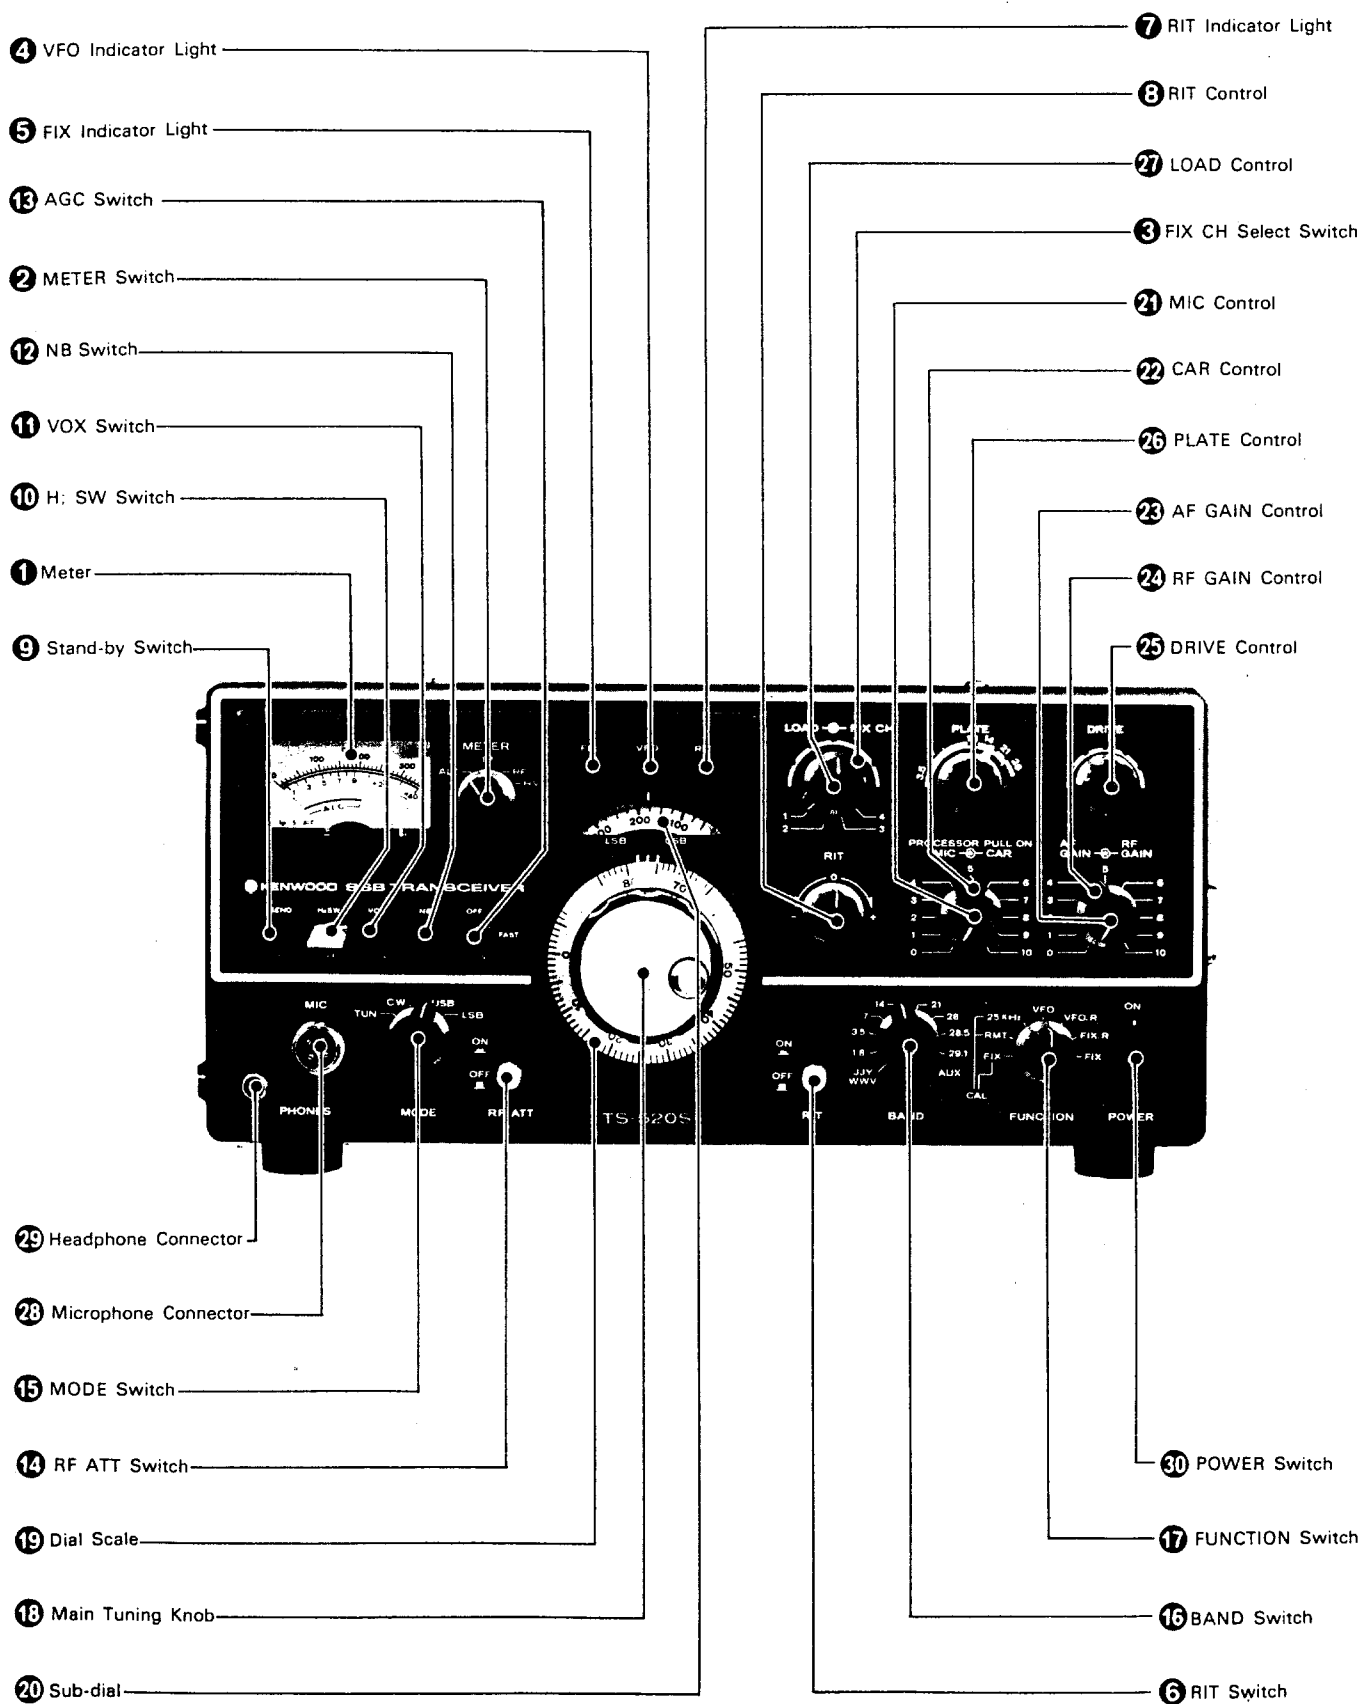

Fig. 5 Front Panel Controls
3.1 FRONT PANEL CONTROLS (See Figure 5)
■ METER (❶ on Figure 5)
■ METER SWITCH (❷ on Figure 5)
■ CH. (FIXED CHANNEL) SELECT SWITCH (❸ on Figure 5)
■ VFO INDICATOR LIGHT (❹ on Figure 5)
■ FIX (FIXED CHANNEL OPERATION) INDICATOR LIGHT (❺ on Figure 5)
■ RIT SWITCH (❻ on Figure 5)
■ RIT INDICATOR (❼ on Figure 5)
■ RIT CONTROL (❽ on Figure 5)
■ STAND-BY SWITCH (❾ on Figure 5)
■ H. SW (Heater) SWITCH (❿ on Figure 5)
■ VOX SWITCH (⓫ on Figure 5)
■ NB SWITCH (12 on Figure 5)
■ AGC SWITCH (13 on Figure 5)
■ RF ATT SWITCH (14 on Figure 5)
■ MODE SWITCH (15 on Figure 5)
■ BAND SWITCH (16 on Figure 5)
■ FUNCTION SWITCH (17 on Figure 5)